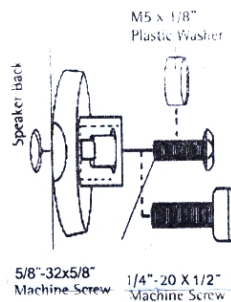

Figure 3
4. Check the size of the hole and make sure the 5/8"-32x5/8" machine screw, the 1/4"-20 x 1/2" machine screw, the M6 x 20mm, or the M5 x 20mm fits inside (Figure 3).